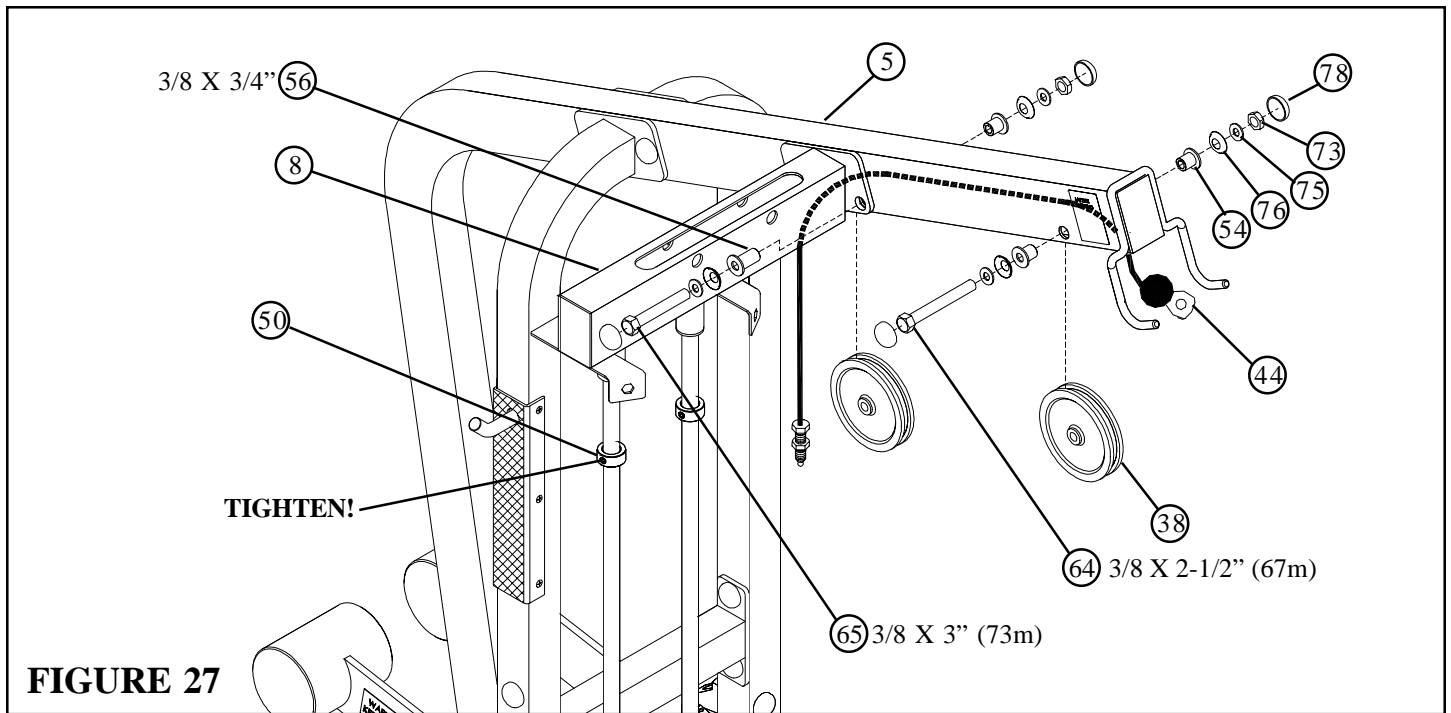

FIGURE 27
- Route the LAT CABLE (44) through the REAR UPRIGHT (5). Then assemble two 4-1/2" PULLEYS (38) and assemble the PULLEYS to the REAR UPRIGHT (5) using four RH CAPS (78), one 3/8 X 2-1/2" BOLT (64), one 3/8 X 3" BOLT (65), four 3/8" SAE WASHERS (75), four 3/8" RH WASHERS (76), three 3/8 X 1/2" FLANGE SPACERS (54), one 3/8 X 3/4" FLANGE SPACER (56) and two 3/8" LOW HEIGHT LOCK NUTS (73) as shown in FIGURE 27. (NOTE: Make sure CABLE is in groove of PULLEY before tightening BOLTS.)
- **SECURELY** tighten STACK BOOM (8) to the REAR UPRIGHT (5) as shown in FIGURE 27.
- Slide the two 13/16" SHAFT COLLARS (50) to the top of the STACK BOOM (8) and **SECURELY** tighten the SHAFT COLLAR (50) set screws.